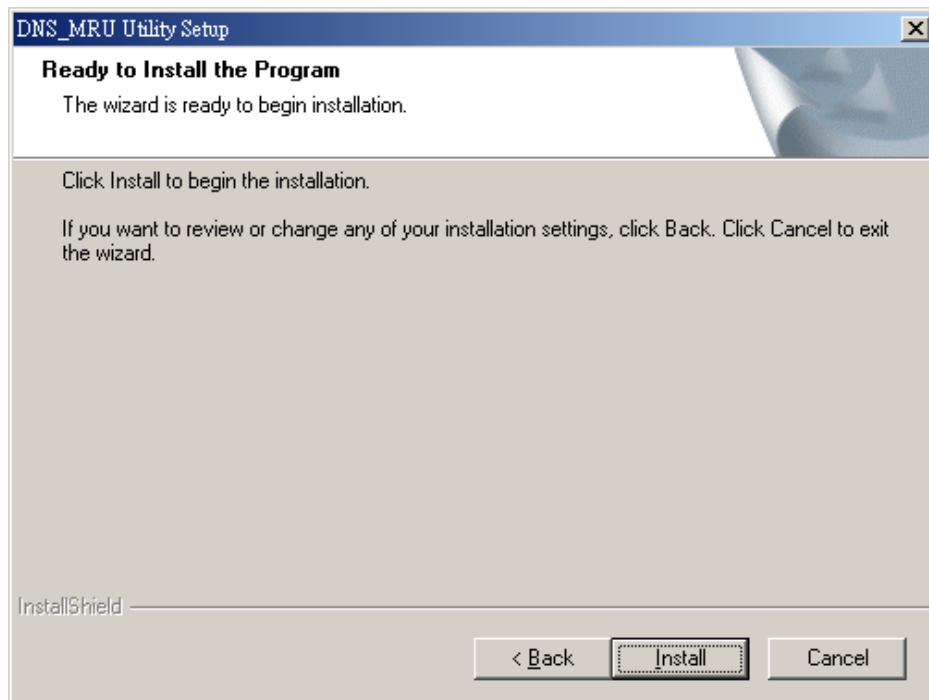

Figure 6-4. “Ready to Install the Program” dialog
**Step 5:** Click “Next” button and a “Ready to Install the Program” window will pop up to prompt user that the wizard is ready to begin the installation See figure 6-4.